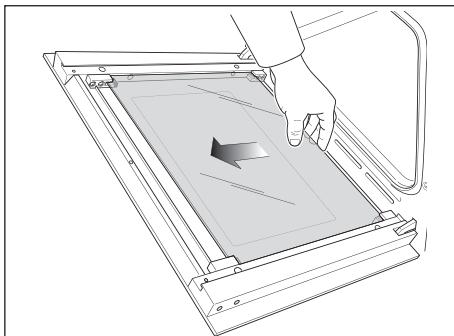

Figure 41
- Gently unlock the middle pane of glass from the bottom clamps by moving it as in fig. 41.